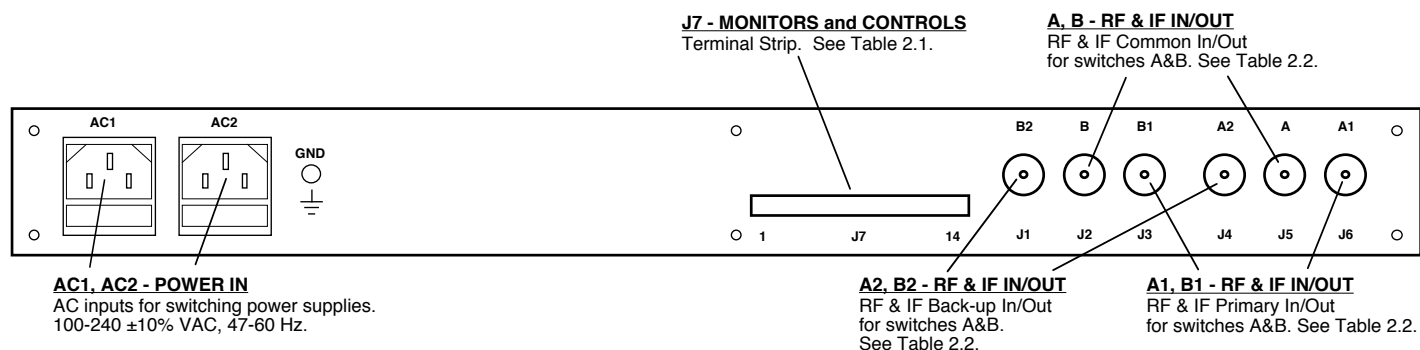

FIGURE 2.2 1582-25L RF Switch Rear Panel Inputs/Outputs
2.2 Input and Output Signals - Figure 2.2 shows the input and output connectors on the rear panel.
4. Connect to signals on the MONITORS AND CONTROLS connector, J7, as desired (see Figure 2.2, Table 2.1).